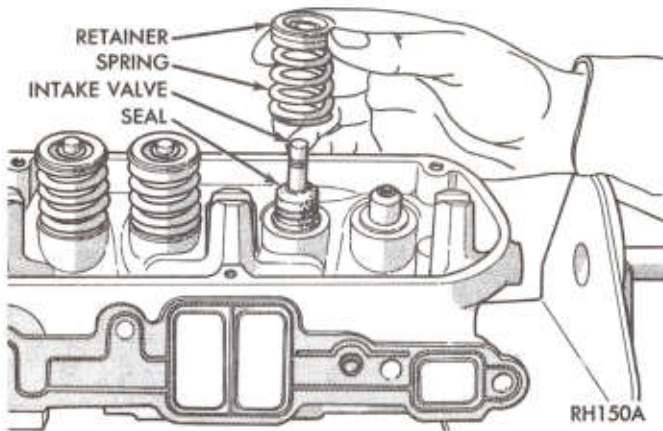

Fig. 22—Installing Valve, Cup Seal, Spring and Retainer
(3) Install new cup seals on all valve stems and over valve guides (Fig. 22). Install valve springs and valve retainers.
(4) Compress valve springs with Tool C-3422-A, install locks and release tool. If valves and/or seats are reground, measure the installed height of springs, make sure measurement is taken from bottom of spring seat in cylinder head to the bottom surface of spring retainer (if spacers are installed, measure from the top of spacer). If height is greater than 1-11/16 inches, (42.86mm), install a 1/16 inch (1.587mm) spacer in head counterbore to bring